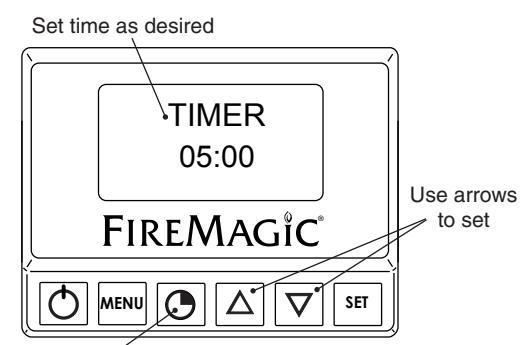

Fig. 19-4 Timer screen
- Press the timer button. Use the arrows to set the desired amount of time (see Fig. 19-4).